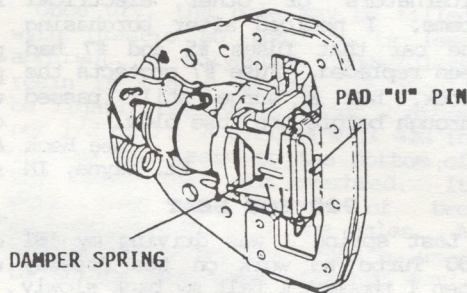

Figure 5. Install damper spring and pad "U" pin.
5. If the car is more than 1 year old, install new damper springs (P/N 89-30-448) as shown in figure 5.
6. Install new pad "U" pins (Figure 5). The "U" pin has a preset bend which can be altered by heat and hard use. The "U" pin controls vibration and locates the pads properly in the caliper. Note the different "U" pins for ventilated and non-ventilated brake calipers.